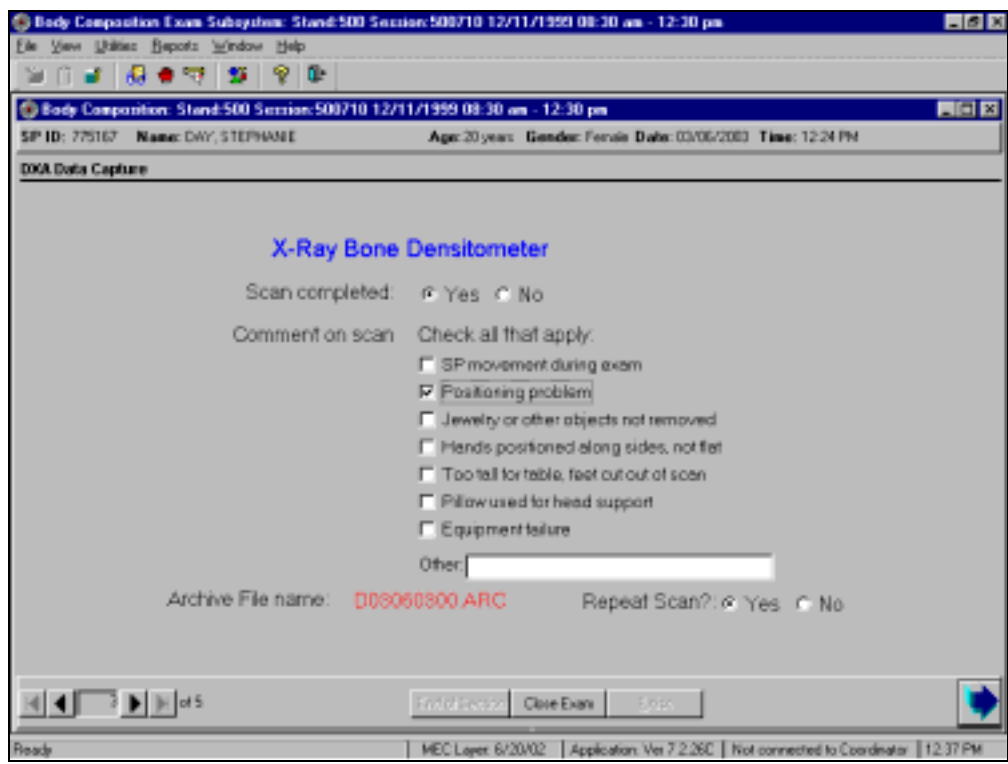

Figure 4-26. DXA data capture (comments on scan)
- 'Jewelry and other objects not removed' should be checked when you get to this screen. See Figure 4-26.